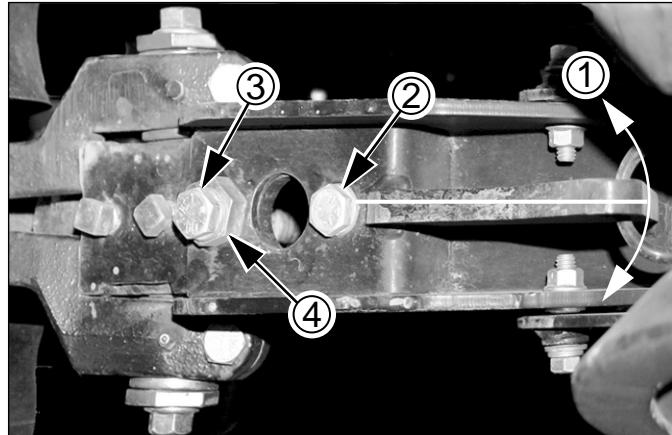

Figure 76
3. Centering (see Figure 76 on page 63)
Refer to Figure 76